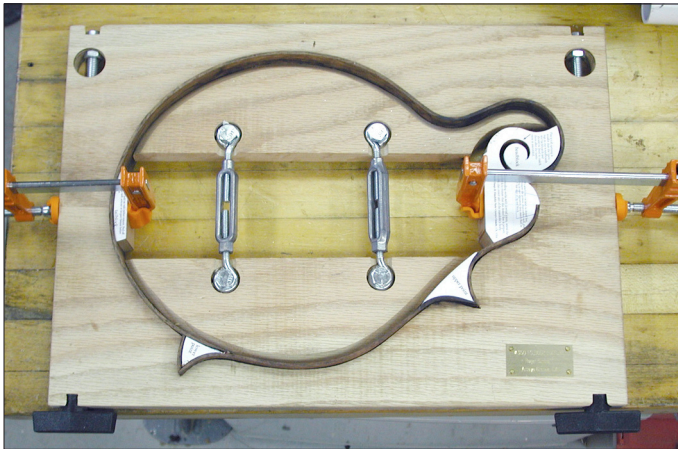

Fig. 1
- 7) Use clamps as shown in Fig. 1 to draw the head and tailblock to the rib and to the fix-